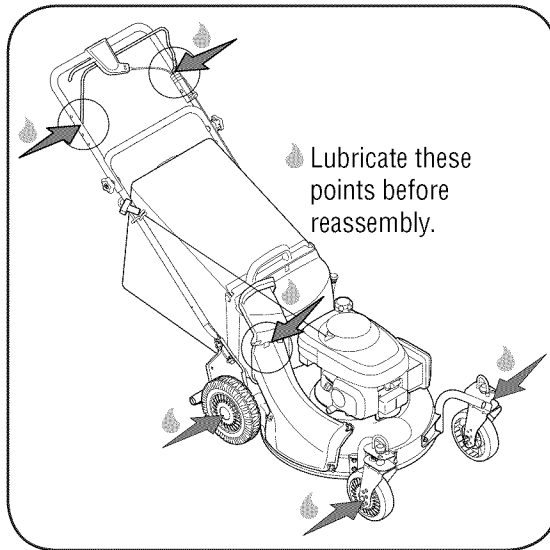

Figure 5-1: Areas to lubricate on the mower.
- Lubricate pivot points on the blade control at least once a season with light oil. The blade control must operate freely in both directions, Figure 5-1.